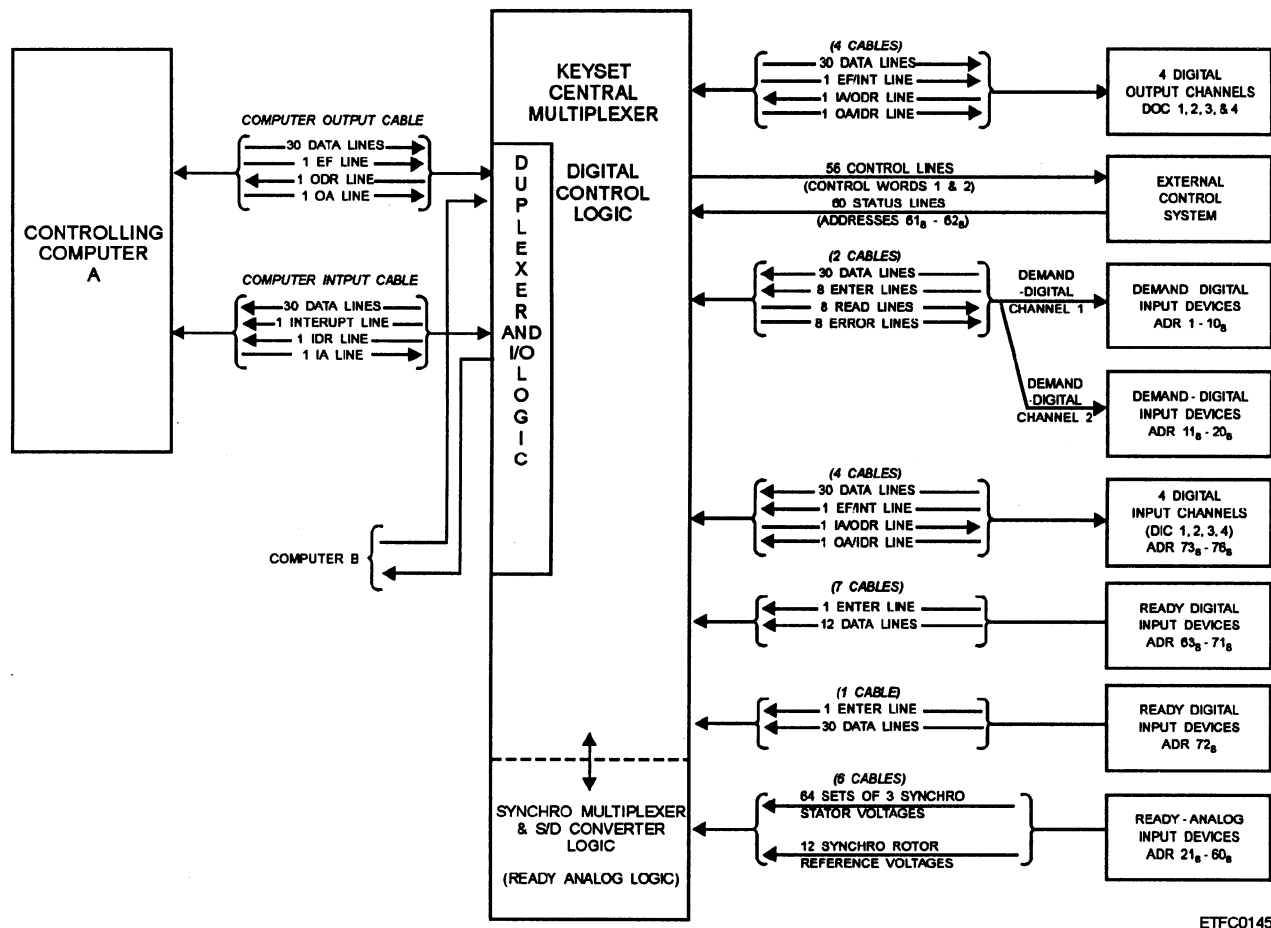

Figure 13-11.—KCMX block diagram.
computers and a variety of input/output devices including multiple control, status, and synchro signal interfaces. The KCMX allows the controlling computer to receive data and status information from external subsystems (missile, gun, electronic warfare [EW], antisubmarine warfare [ASW], and so forth) and to transmit data and control information to external subsystems. A simplified block diagram of the KCMX is shown in figure 13-11.
The duplexer (figure 13-11) allows the KCMX to be controlled by two computers on a one at a time basis. The duplexer is controlled by external function commands from the computers. Three external function commands are used to control the duplexer logic: request control, release local, and release remote.
The digital control logic (figure 13-11) puts the KCMX in one of its seven operating modes as specified by the controlling computer. The KCMX operating modes are neutral, duplex, transmit data from unit computer (TDUC), receive data from unit computer (RDUC), TDUC and RDUC, interrupt, and keyset error.
The 16 demand digital (DD) inputs (figure 13-11) use 30-bit words. Eight DD devices are daisy chained on each of two cables. Each DD device (keyset) is controlled by three control signals: enter, read, and error. A total of 24 control signals is required for the eight DD devices on an input cable.
**READY DIGITAL (RD) INPUTS.**— There are up to eight inputs for ready digital data (figure 13-11); KCMX addresses 63 through 71 are used for 12-bit data while address 72 is used for 30-bit words. This data is obtained from synchomechanical devices such as the radar azimuth converters (RACs). The data normally represents a digitized analog antenna position.
The KCMX is capable of receiving and transmitting data over four 30-bit CDS I/O channels (DIC1 through DIC4 and DOC1 through DOC4). The input channels are assigned KCMX addresses 73 (DIC1) through 76 (DIC4). The DIC/DOCs (figure 13-11) maybe used for input only devices, output only devices, or a DIC/DOC pair (DIC1/DOC1, DIC2/DOC2, and so forth), which can communicate with an I/O device.
Sixty status signals may be received by the KCMX (figure 13-11) via status inputs connected to KCMX addresses 61 and 62. Each KCMX status address provides a 30-bit status word when interrogated by the controlling computer. The condition of each status bit in the two status words is dependent on the condition of its associated status relay coil. The status relays complete the circuit between the KCMX and the external devices generating the status signals. Supply voltages used to generate status signals include but are not limited to 26 vdc, 50 vdc, and 115 vac 60/400 Hz.
The control signals (figure 13-11) are generated by the KCMX in response to control word outputs from the controlling computer. Individual bits set in the two